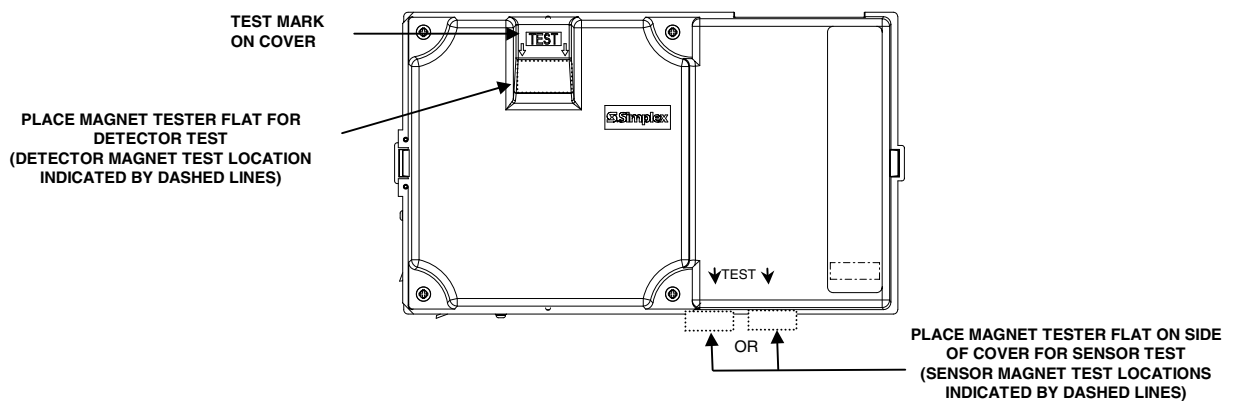

Figure 16. Magnet Test Location
With power applied to the Duct Detector, introduce aerosol using the 553-673 Smoke Detector Aerosol Tester into the Duct Detector through the test port holes (Figure 1). Or, place the 553-810 Magnet Tester next to the test location on the clear Housing Cover (Figure 16). Observe “ALARM” LED operation on the detector or the “ALARM” LED on the interface PCB for DUCT Sensors. Restore normal operation to detector by doing a system reset at the panel, or by momentarily removing power, or by removing and replacing the detector head. Restore normal operation to sensor by doing a system reset at the panel.
Position the 553-810 Magnet Tester on the cover side, below either of the arrow marks (see Figure 16), **not between the two arrow marks**. Testing a sensor with a magnet reports a value of 255 for actual / peak (exception 4010 panel). Clear the peak value after testing.
The 4098-9601 photoelectric detector may be tested by placing a magnet at the location indicated by a “TEST” mark embossed on the cover **for four (4) seconds** (see Figure 16). Use the Simplex Magnet Tester (Part No. 553-810), Table 4, and the following information to test detectors.
When placing the magnet near the location (see Figure 16) indicated by a “TEST” mark embossed on the cover, the visible LED flashes indicating the detector's condition. The following are descriptions of what you should see when using the MAG TEST.